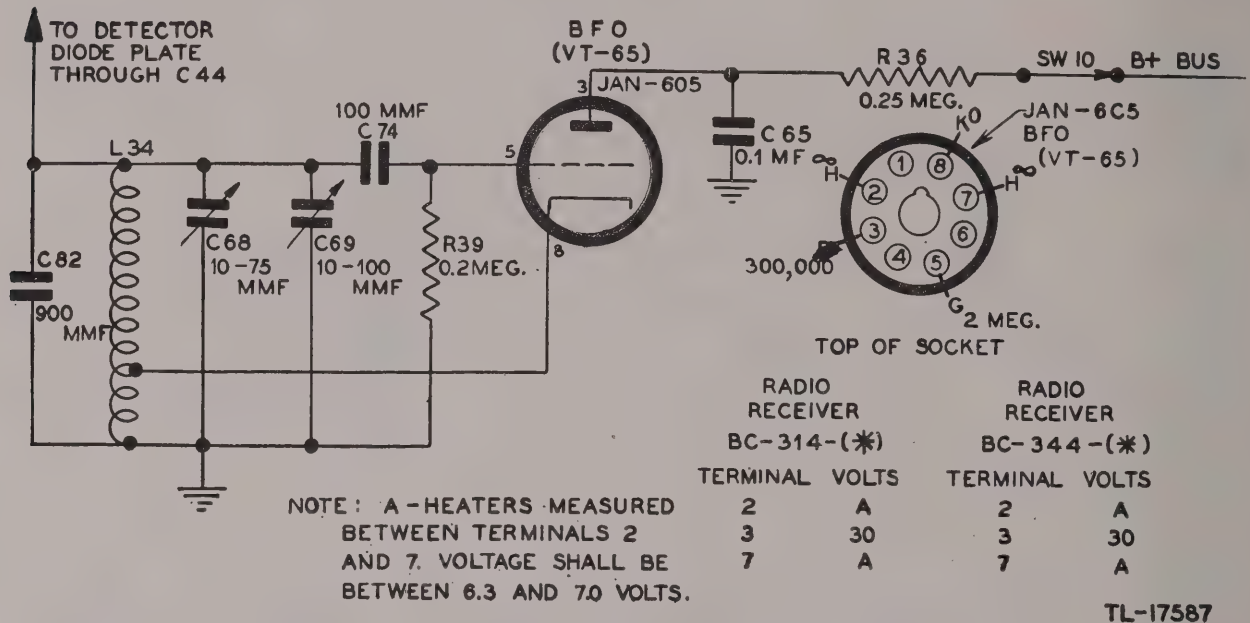

Figure 27. C-w oscillator, schematic diagram.
b. VOLTAGE AND RESISTANCE MEASUREMENTS. The voltage and resistance measurements shown in figure 27 were made in the manner and under the conditions listed in paragraph 40b.